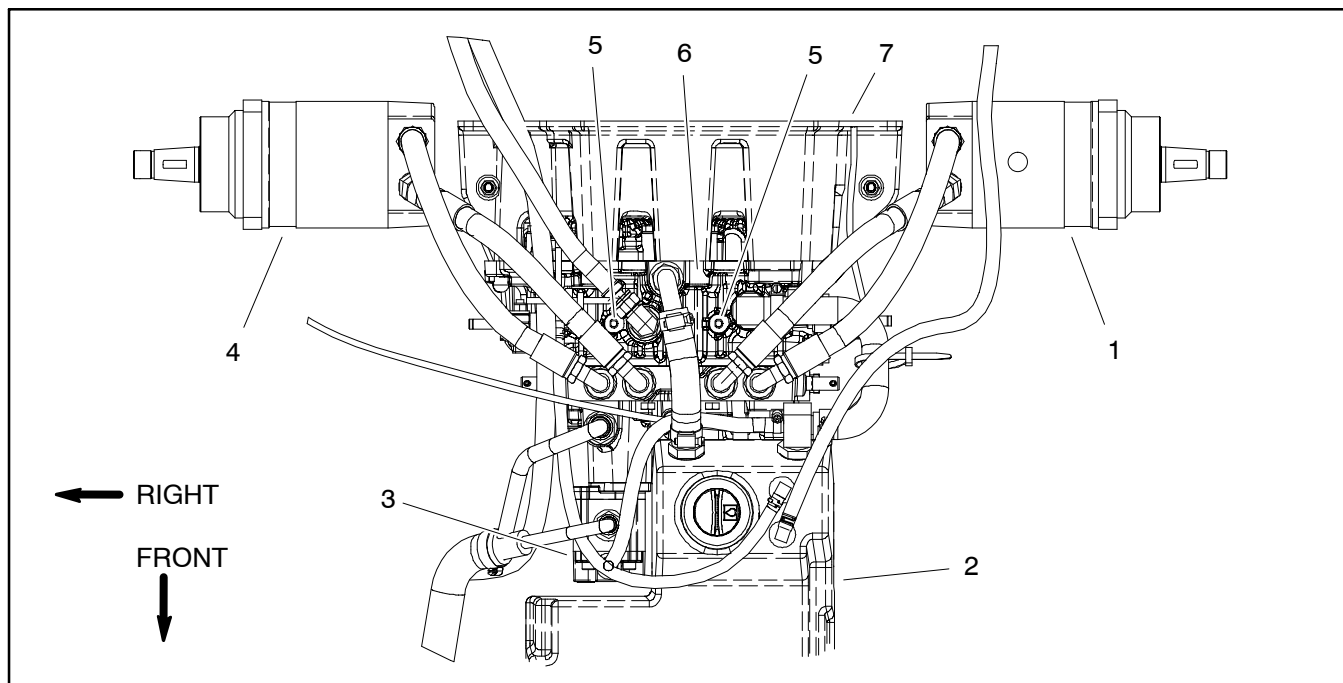

Figure 37
NOTE: Two (2) 8 mm eyebolts can be installed into threaded bosses in top of transmission to allow use of a lift or hoist to remove transmission (Fig. 37).